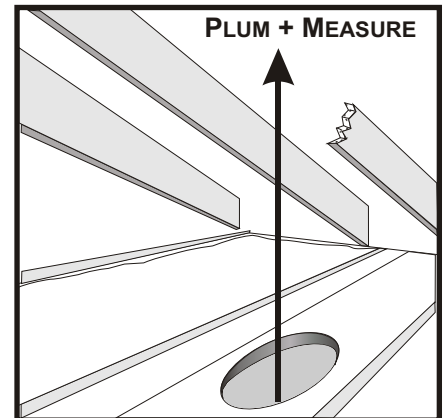

Figure 4
5. Proceed by cutting the ceiling hole. Now that the ceiling hole is cut, you will need to locate the roof hole center point to be cut. Plumb from the hole in the ceiling either with a level or a plumb line up to the roof boards and mark the spot (**Fig. 4**). Drill a small hole up through the roof. It may be necessary to push a probe up through the hole to help you locate it from the top of the roof.